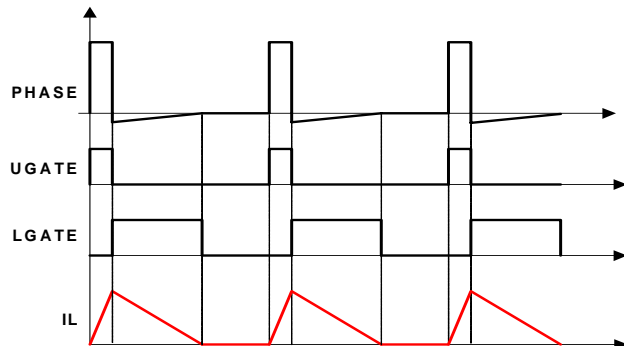

FIGURE 8. DIODE EMULATION
ISL62882 can operate in diode emulation (DE) mode to improve light load efficiency. In DE mode, the low-side MOSFET conducts when the current is flowing from source to drain and does not allow reverse current, emulating a diode. As Figure 8 shows, when LGATE is on, the low-side MOSFET carries current, creating negative voltage on the phase node due to the voltage drop across the ON-resistance. The ISL62882 monitors the current through monitoring the phase node voltage. It turns off LGATE when the phase node voltage reaches zero to prevent the inductor current from reversing the direction and creating unnecessary power loss.
If the load current is light enough, as Figure 8 shows, the inductor current will reach and stay at zero before the next phase node pulse, and the regulator is in discontinuous conduction mode (DCM). If the load current is heavy enough, the inductor current will never reach 0A, and the regulator is in CCM although the controller is in DE mode.